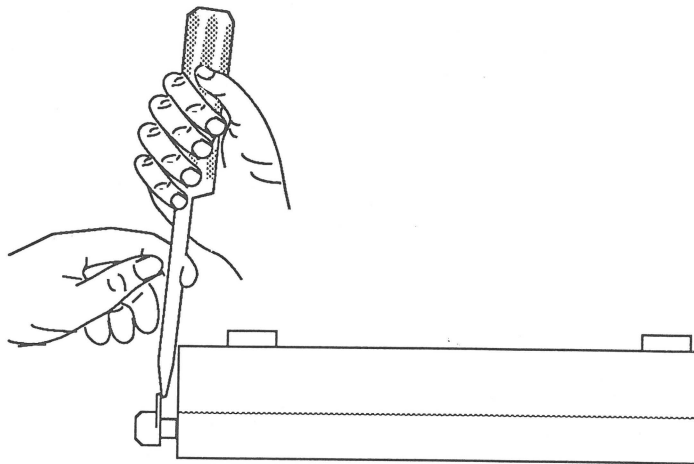

FIGURE 1
1. Use a flatblade screwdriver to carefully pry the disk insertion lever away from the disk drive (see Figure 1).